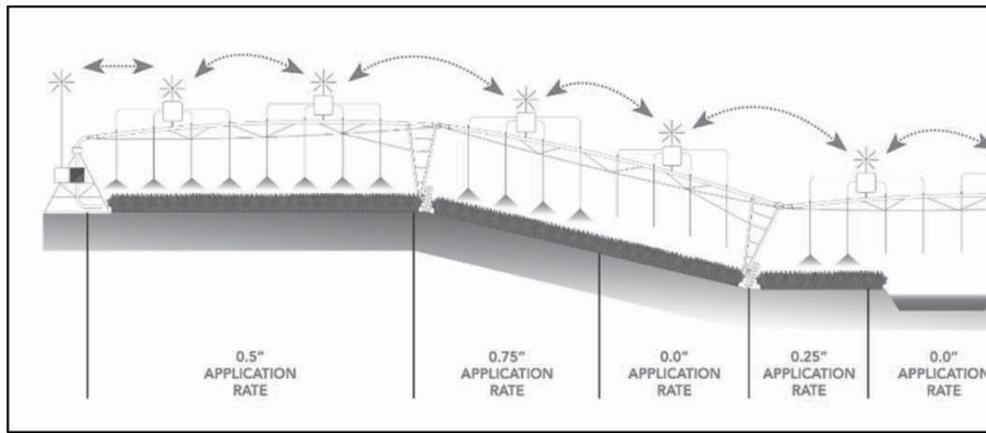

Figure 1. Conceptual illustration of VRI; where * are the nodes controlling the banks of sprinklers (from Precision Irrigation).
Variable Rate Irrigation (VRI) allows the application of the correct depth of water to specific areas under an irrigator – centre pivot or linear move irrigators. The system allows full control to maximise yields and profitability. The varied application depth is achieved by individually pulsing sprinklers on and off, all the while controlling the system speed to adjust the application depth along the length of the centre pivot or linear. Figure 1 conceptualises the VRI system, in this case where banks of four (4) sprinklers are pulsed on and off to apply the specified depth of water.